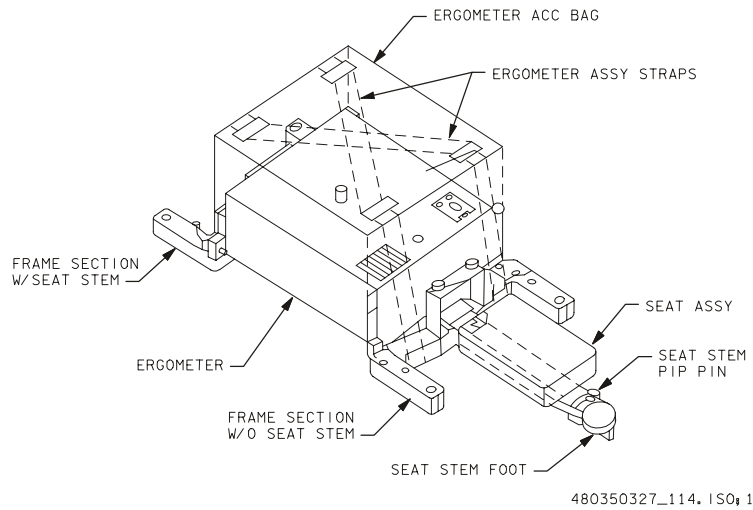

Figure 3-3.- Ergometer middeck launch/landing config (ergo assy).
11. Slide frame half, without seat stem, onto stem in launch/landing config (fig 3-3)
14. Attach Ergometer horizontally to frame with pip pins (fig 3-3)
18. Mount frame to launch/landing position in middeck using frame/AQDs (four), with seat stem facing forward (fig 3-3)
Using Ergo Assy Straps attach Ergo Acc Bag to Ergometer (fig 3-3)
2. Screw Manual Control Kb into bushing on Ergometer (fig 3-3)